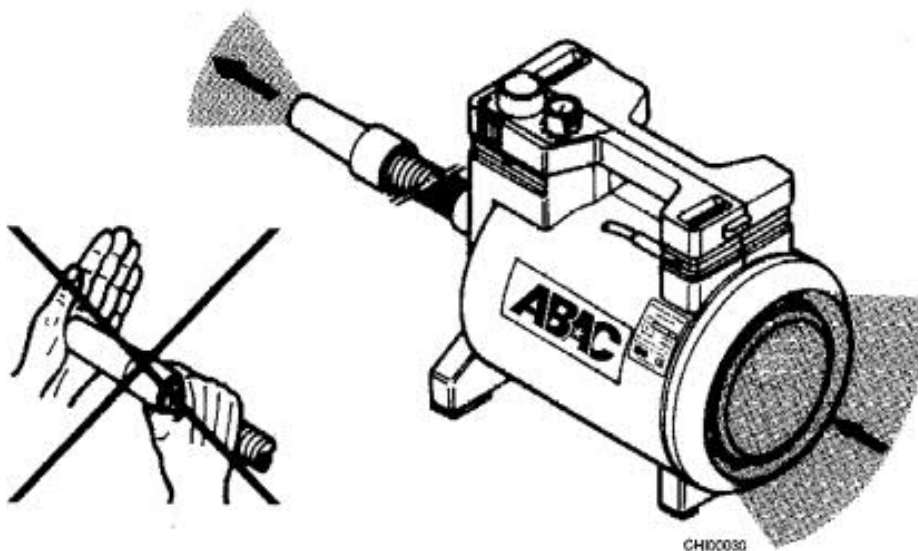

Fig.2
- The air flow inside your SG 90 E Motor Blower must not be obstructed to ensure continuous adequate cooling of the blower motor – see figure 2.